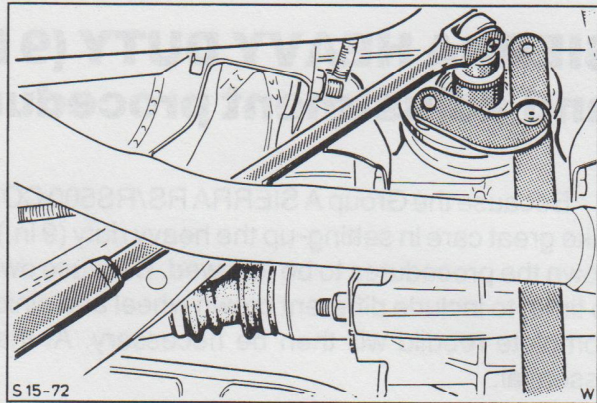

Fig. 77. Hold drive flange with special tool and tighten flange nut.
8. Fit the flange onto the drive pinion, hold it using Special Tool 15-030 and tighten the self-locking nut to the specified torque (see Technical Data), Fig. 77.